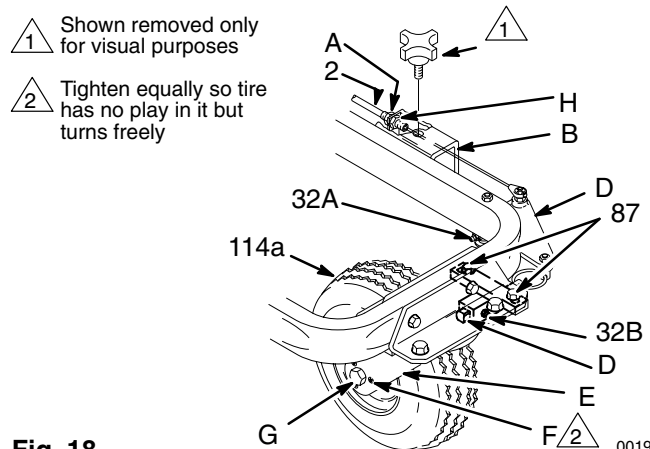

Fig. 18 0019
2. Even tension on the rear tire bearings (adjust nuts (10) as needed.) See page 44.
3. Even tightness of the caster screws (F). See Fig. 18.
Maintenance See Fig. 18
Caster Tire Replacement See Fig. 18.
Caster Cable Tension Adjustment See Fig. 18.
1. Loosen the two capscrews (87). Grasp the tire and visually align it. Tighten the capscrews evenly. Move the unit forward. If the caster appears straight, start the unit (use water) and spray along a true straight line. Continue adjusting as necessary. See Fig. 18.